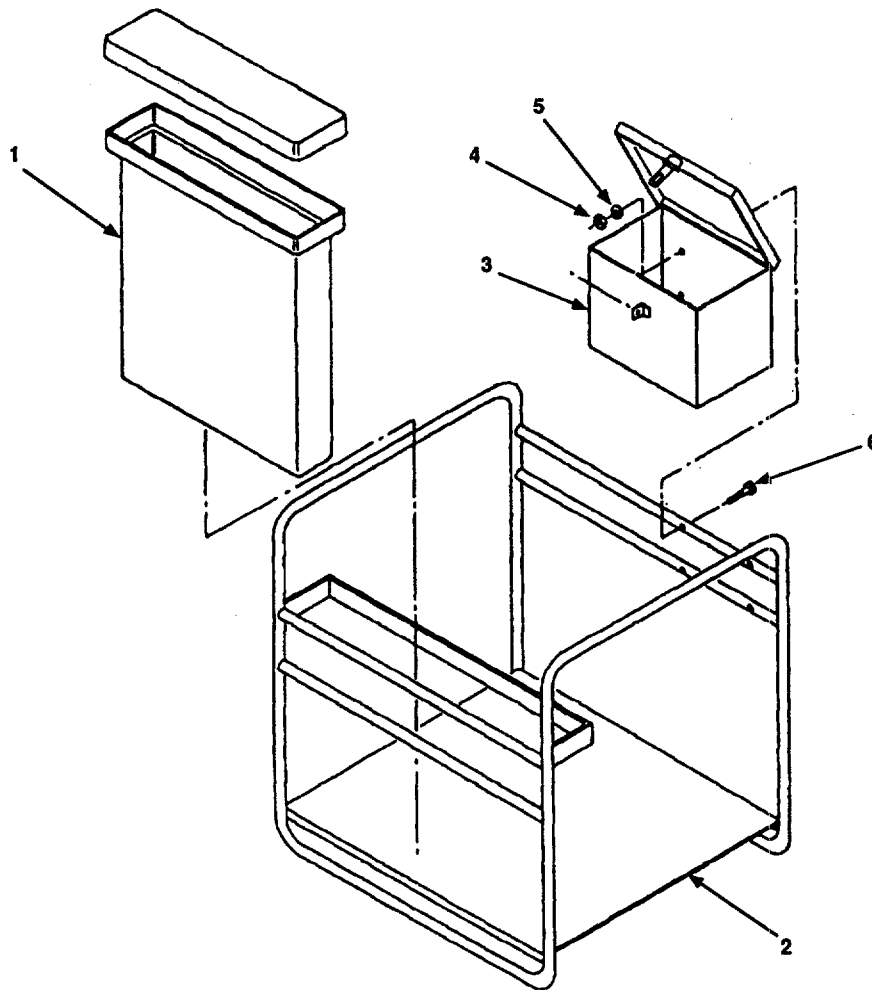

Figure 4-21. Chlorine Reservoir and Tool Box Replacement.
4.13.8.1 Removal. Placing the frame assembly (Figure 4-21, 1) in the equipment conditions specified above will remove the frame assembly (1) from the hypochlorination unit.